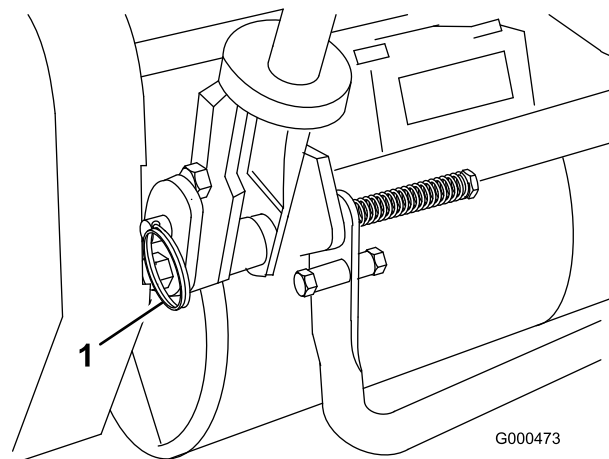

Figure 12
1. Remove hairpin cotters from ring pins on each side of mower (Figure 12).
2. While supporting handle, remove ring pins from each side and raise or lower handle to desired operating position (Figure 12).